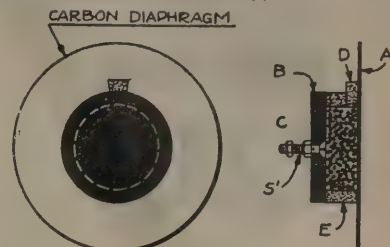
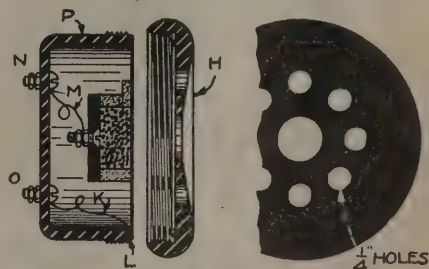
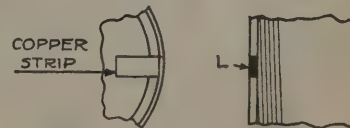
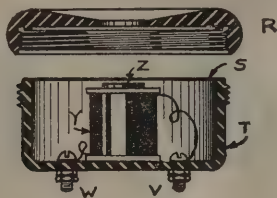

FIG 1
FIG 2
FIG 3
FIG 4
A good method is shown in the illustration Fig. 1. Three nails are driven into a board out of alignment with each other, the wire passing around them as shown. All that is necessary is to keep the wire between the nails and pull it through.
Another good way to straighten wire is to use a single nail, which is usually handy when using the wire. This is shown in Fig. 2. The wire simply passes around the nail, one hand being used to
The transmitter is highly sensitive. The shell of a watchcase receiver makes an excellent outer case as shown at (P), Fig. 3. For the interior mechanism we need a thin carbon diaphragm (A), Figs. 1, 2, 3, preferably standard size, 2 1/8 inches wide and 1/64 inch thick. A felt washer (E) 1 1/4 inches in diameter with walls 3/16 inch square should be made with an opening (X) 3/16 inch wide. Glue the washer to the center of the carbon diaphragm.
phragm. Countersink the hole a little on one side so that when a 1/4-inch bolt, 1/2 inch long, and a nut are bolted on this button, the head of the bolt will not touch the first carbon diaphragm (A), Fig. 2. The smaller carbon diaphragm can be easily made with a hacksaw and the hole bored with an iron bit.
It is better to insulate the head of the bolts by dipping it in shellac. The carbon button must now be glued to the felt washer with the head of the bolt and the beveled side of the carbon inside, see Fig. 2. After the glue is dry, the chamber
A piece of paper bent to a scoop will simplify the filling of the chamber. The openings between the ends of the washer must be plugged with a piece of felt (D), Figs. 1 and 2. This can be done with a pin or sharp pointed knife.
The binding posts (N) and (O), Fig. 2, are fastened on the bottom of the transmitter case. The connection from one of the binding posts to the carbon diaphragm should be made with very thin copper or brass strips, $\frac{3}{8}$ inch wide and about $1\frac{1}{2}$ inches long as shown at (K), Fig. 3. The copper strip is bent over the edge of the shell and cut off flush at the edge of the rim (L), Fig. 3.
The other terminal (N) should be connected by three No. 28 insulated copper wires to the terminal (C) of the carbon button. The three small wires have more flexibility than one large one. The carbon diaphragm should now be put in place, and a receiver cap screwed on the transmitter as shown in Fig. 3. The transmitter will be more sensitive if a number of $\frac{1}{4}$ -inch holes are bored in the cap as shown in Fig. 4.
FIRST a pair of wooden candlesticks were procured and wired as shown in Fig. 1, the wires ending in contact points spaced as far apart as possible in the socket of the candlestick. Next a pair of candles. Each had two wires run up their length and bent to form a small gap at the base of the wick. The wires were introduced by being heated, so as to melt their way through. These wires were bare and so placed as to make a contact
magnet. Then a coil of No. 24 wire is wound upon the base of a ten watt thirty volt lamp. The construction of this coil is shown clearly in Fig. 2. The composition into which the finished coil should be dipped is taken from old dry cells.